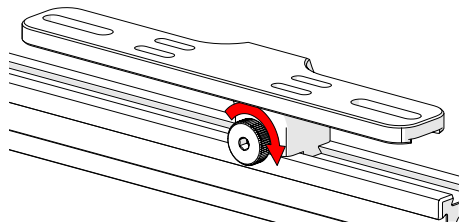

Fig. 71 - Tighten knob
2. Tighten the knob to lock the preamp bracket in place (*Fig. 71*).